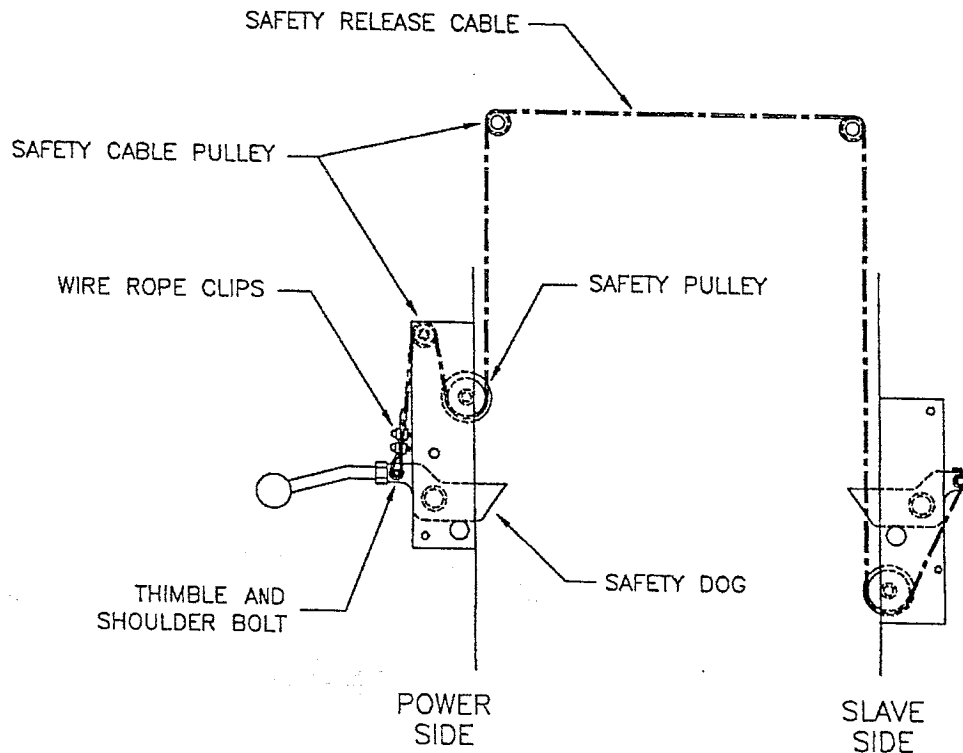

Figure 10 – Safety Release Routing and Adjustment
2. Refer to Figure 10 for safety release cable routing. The end of the cable that has a collar attaches to the slave side tower. The free end is fixed to the power side tower using two (2) wire rope clips.
7. Guide the cable up under the large pulley and then over the small pulley towards the safety dog as shown in Figure 10. Wrap the cable around the thimble (attached to the safety dog with a 5/16" x 1/2" lg. shoulder bolt) and then clamp it using two (2) wire rope clips. Do not tighten fully at this stage.